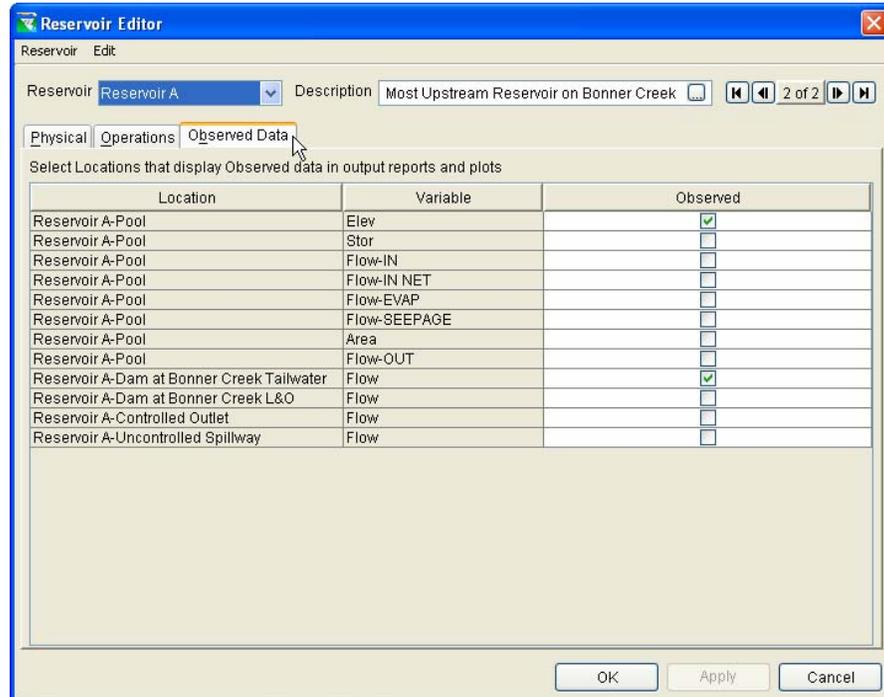

Figure 26 – Observed Data Tab
c. The **Observed Data** tab is used to indicate that observed data is available for comparison purposes [Section 10.21]. If the **Observed** box is “checked” in the table (as shown in Figure 26), then there will be a corresponding entry in the Observed Time-Series mapping table when an Alternative is created [Section 13.8].